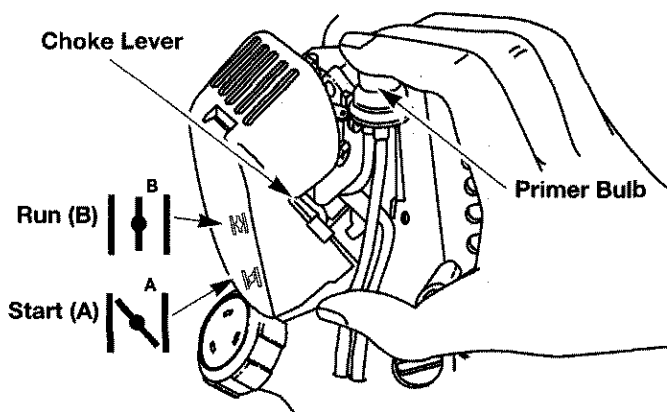

Fig. 6
4. Fully press and release the primer bulb slowly 5 to 7 times. Gasoline should be felt and visible in the bulb (Fig. 6). If gasoline has not entered the bulb, press three more times, or until it does.
5. Place the choke lever in the **START** (N) position (Fig. 6).
7. Place the choke lever in the **RUN** (|| B) position (Fig. 6). The lever should snap up into place.